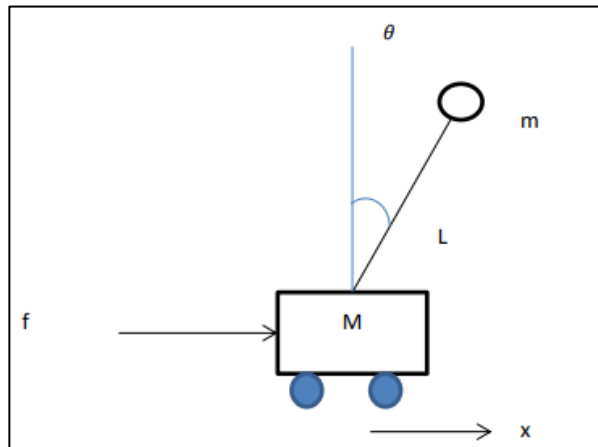

Fig.4A
- 4A.** Formulate the dynamics of the system shown in Fig.4A using Lagrangian method. **05**